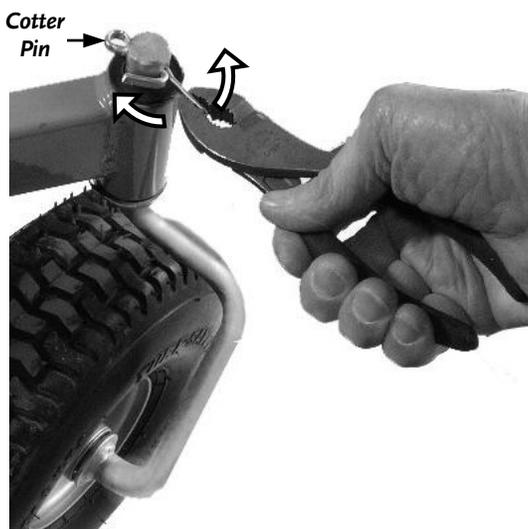

Figure 5
2. Insert the Caster Wheel Spindle into the Bushings from the bottom. Push the Cotter Pin into the Hole in the Spindle as far as it will go (**Figure 5**).
3. Hold the Tire with one hand to keep the Axle from turning while bending the legs of the Cotter Pin with Pliers. Bend the long leg first, then the shorter leg (**Figure 5**).